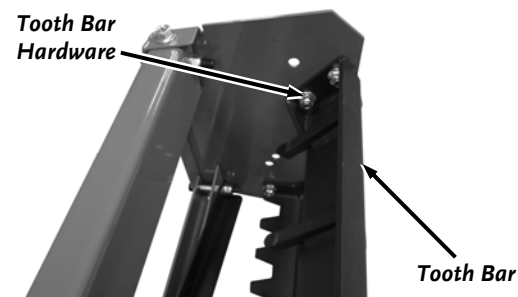

Figure 8
4. Support the Tooth Bar as you remove the four Bolts, Flat Washers and Locknuts that are securing the Tooth Bar using two 9/16" Wrenches (**Figure 8**).